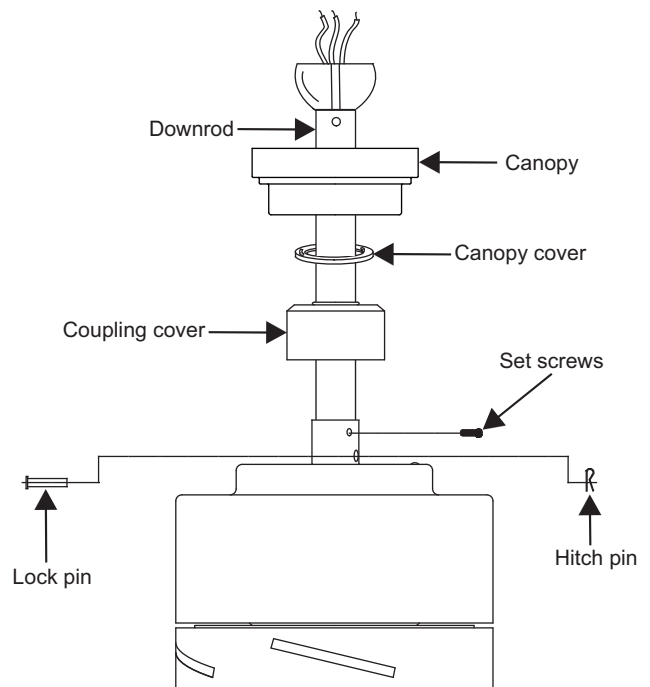

Figure 7
Step 6. Route wires exiting from the top of the fan motor through the collar cover, canopy cover, canopy and then through the ball / downrod. (Fig. 7)
Step 7. Align the holes at the bottom of the downrod with the holes in the collar on top of the motor housing (Fig.7). Carefully insert the hanger pin through the holes in the collar and downrod. Be careful not to jam the pin against the wiring inside the downrod. Insert the locking pin through the hole near the end of the hanger pin until it snaps into its locked position, as noted in the circle inset of Fig. 7.
Step 8. Tighten two set screws on top of the fan motor firmly. (Fig. 7)